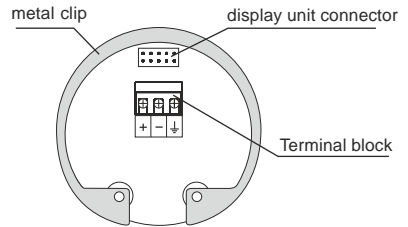

Fig. 17: Inside view of screw terminals of the level meter with current output CPC-U-70 _ _ _ I
5. Connect the cable to the screw terminals according to the diagram in Fig. 17 or 18. Firmly tighten the terminals and the cable outlet.
In the event of strong ambient electromagnetic interference, paralleling of conductors with power distribution, or for distribution to distances over 30 m, we recommend grounding the level meter (see above) and using a shielded cable. Ground the shielding of the cable on the side of the power supply, or the shielding is possible to connect only on inside pin of the level meter marked see fig. 17 and 19 (the shielding of the cable is always connected in a single location).